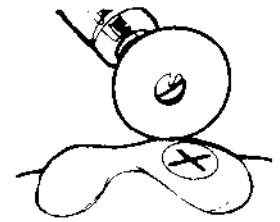

Fig. 6
- After finishing, cut an "X" on the flattened occlusal surface (toward the lingual to allow room for the denture teeth) to create solder channels where the attachment will be mounted (Fig. 6).